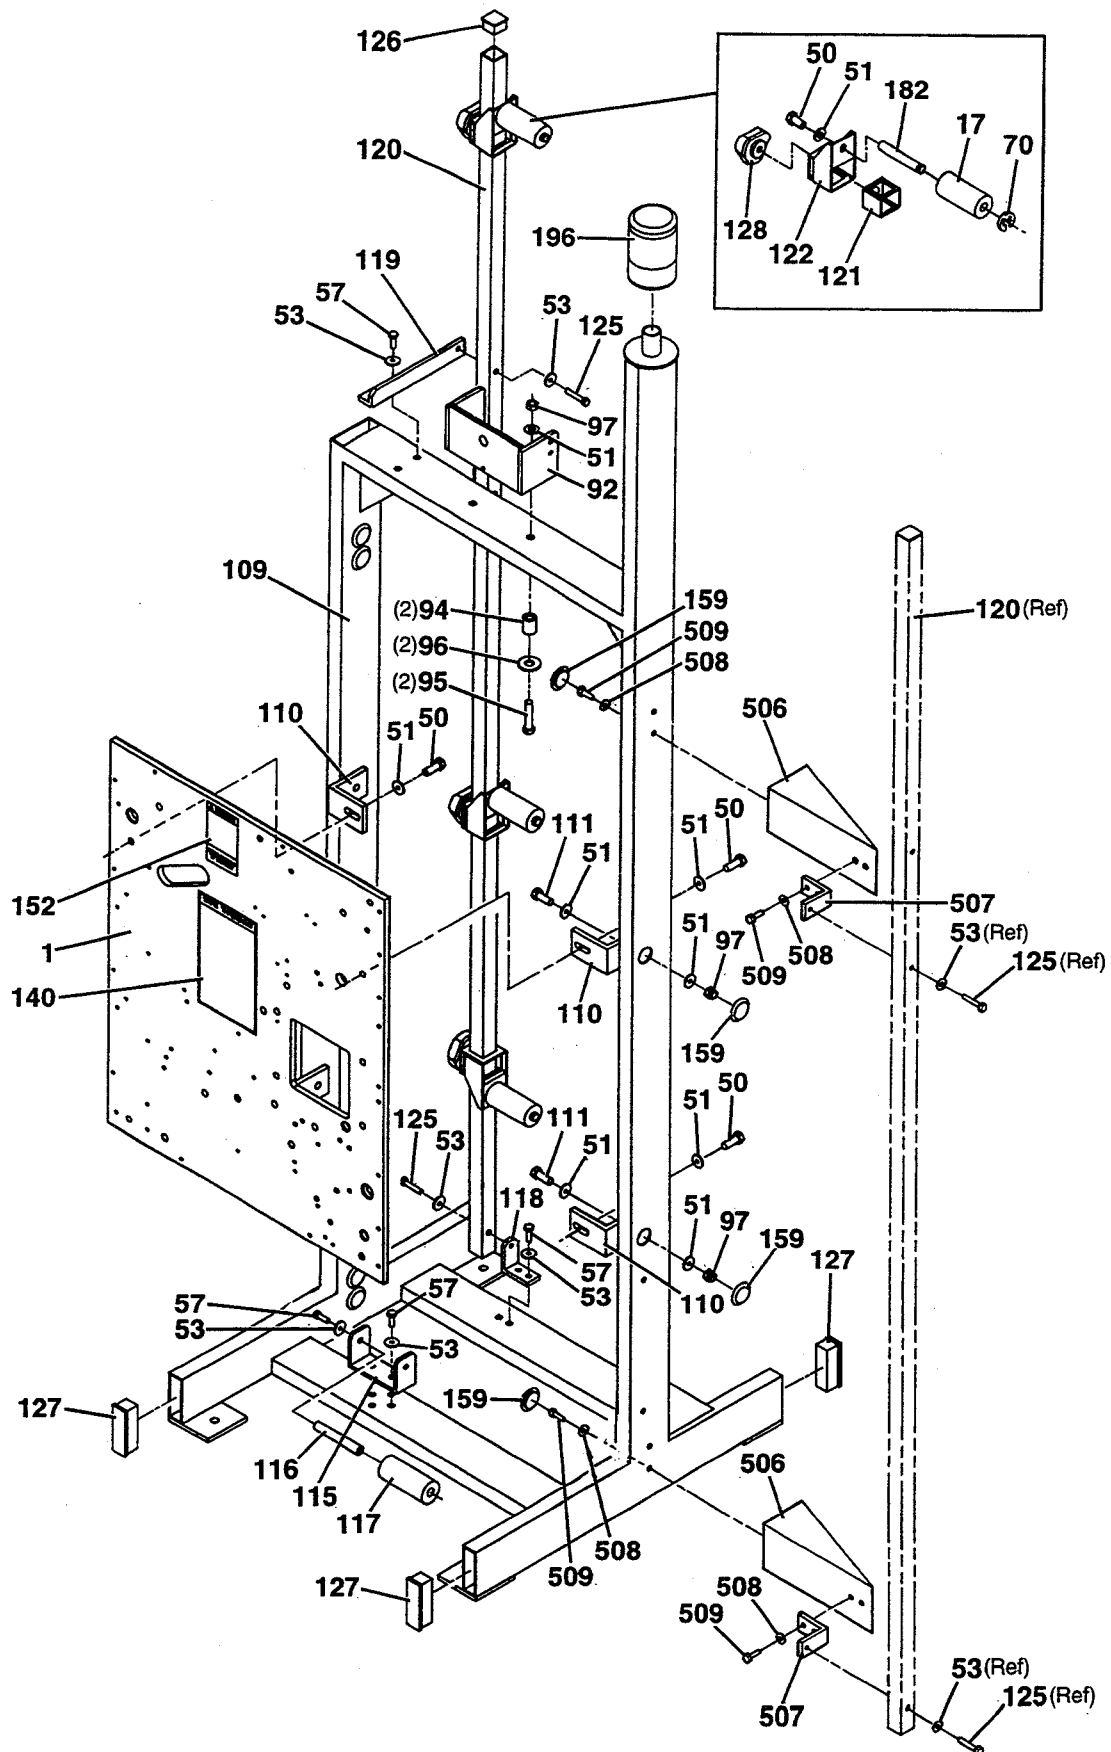

Figure 8-2 – Parts Illustration
2. Refer to Figures 8-2 through 8-6 to find the individual parts required and the parts reference number.